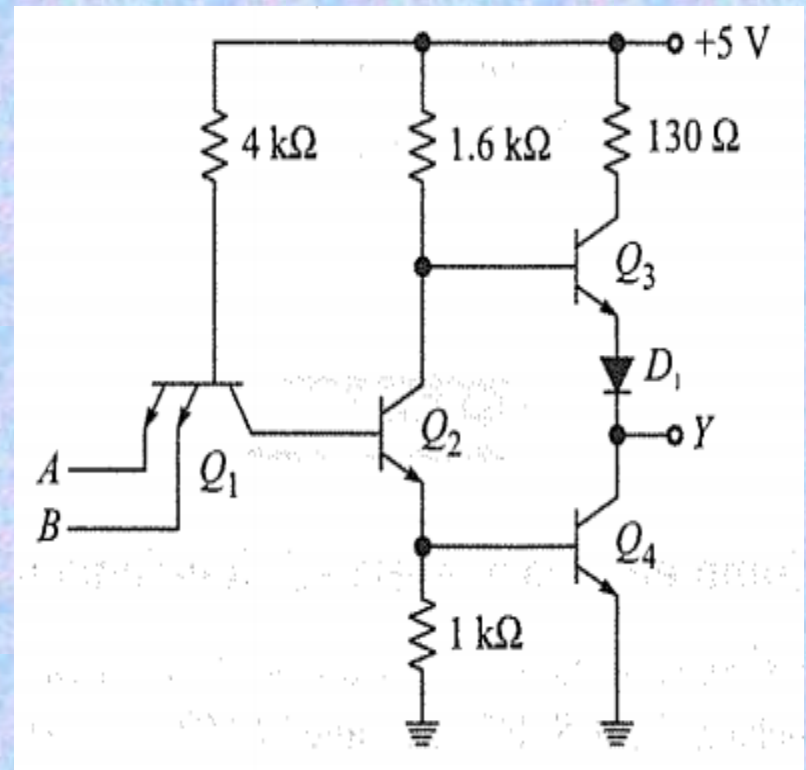

Fig. 1.10 Two-input TTL NAND gate
- Figure 1.10 shows a TTL NAND gate. The multiple-emitter input transistor is typical of the gates and other devices in the 7400 series. Each emitter acts like a diode; therefore, Q_1 and the $4\text{-k}\Omega$ resistor act like a 2-input AND gate. The rest of the circuit inverts the signal so that the overall circuit acts like a 2-input NAND gate. The output transistors (Q_3 and Q_4) form a *totem-pole* connection (one npn in series with another); this kind of output stage is typical of most TTL devices. With a totem-pole output stage, either the upper or lower transistor is on. When Q_3 is on, the output is high; when Q_4 is on, the output is low.
- By varying the design of Fig. 1.10 manufacturers can alter the number of inputs and the logic function. With only few exceptions, the multiple-emitter inputs and the totem-pole outputs are used for different TTL devices. Table 1.2 lists some of the 7400 series TTL gates. For instance, the 7400 is a chip with four 2-input NAND gates in one package. Similarly, the 7402 has four 2-input NOR gates, the 7404 has six inverters, and so on.
- The circuit of Fig. 1.10 is called standard TTL. By decreasing the resistances a manufacturer can lower the internal time constants; this decreases the propagation delay time. The smaller resistances, however, increase the power dissipation. This design variation is known as high-speed TTL. Devices of this type are numbered 74H00, 74H01, 74H02, and so on. A high-speed TTL gate has a power dissipating around 22 mW and a propagation delay time of approximately 6 ns.